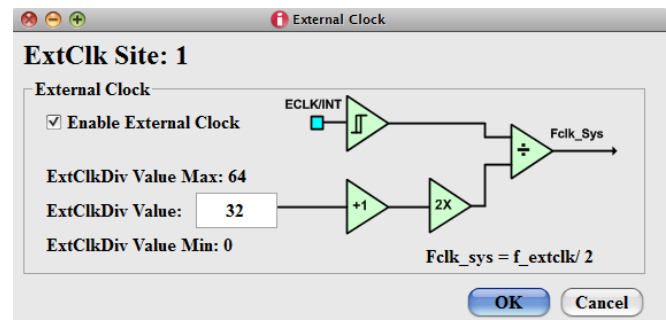

FIGURE 9. EXTERNAL CLOCK DIALOG BOX
- The ISL28022 can be synchronized to an external clock to reduce measurement noise in a system. To configure and enable the external clock feature choose the EXTCLK/INT selection in the ISL28022 drop down menu. A dialog box, illustrated in Figure 9, will appear allowing the user to enable the external clock feature. The input bandwidth of the external clock pin is roughly 4MHz. The external clock frequency can be divided to match the internal system clock frequency of 500kHz. Choosing a clock division that results in internal clock frequency close to 500kHz will guarantee ADC acquisition times similar to the default times.